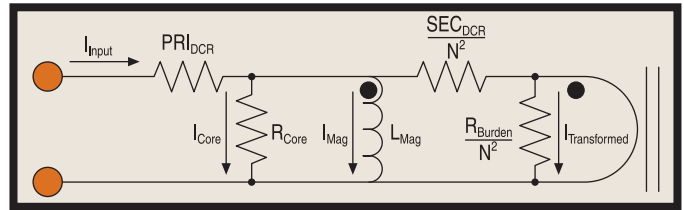

Fig. 2. Current transformer loss components.
tance and minimize the inductance current. Accurate turns ratio must be maintained to produce the expected secondary current and the expected accuracy. Fig. 2, on page 33, shows the current transformed is smaller than the input current by:
Notice the four loss components in the circuit of Fig. 2. The resistance of the primary loop (PRI_{DCR}), the core loss resistance (R_{CORE}), the secondary DCR (R_{DCR}) is reduced by $1/N^2$, and the secondary burden resistor R_{BURDEN} is also reduced by a factor of N^2 . These are losses that affect current source (I). The resistances have an indirect effect on the current transformer accuracy. It's their effect on the circuit that they are monitoring that alters its current. The primary dc resistance (PRI_{DCR}) and the secondary DCR/ N^2 (R_{DCR}/N^2) don't detract from the I_{input} that is read or is affecting the accuracy of the actual current reading. Rather, they alter the current from what it would be if the current transformer weren't in the circuit. With the exception of the burden resistor, these loss resistors are the components that contribute to the loss in the transformer and heating.